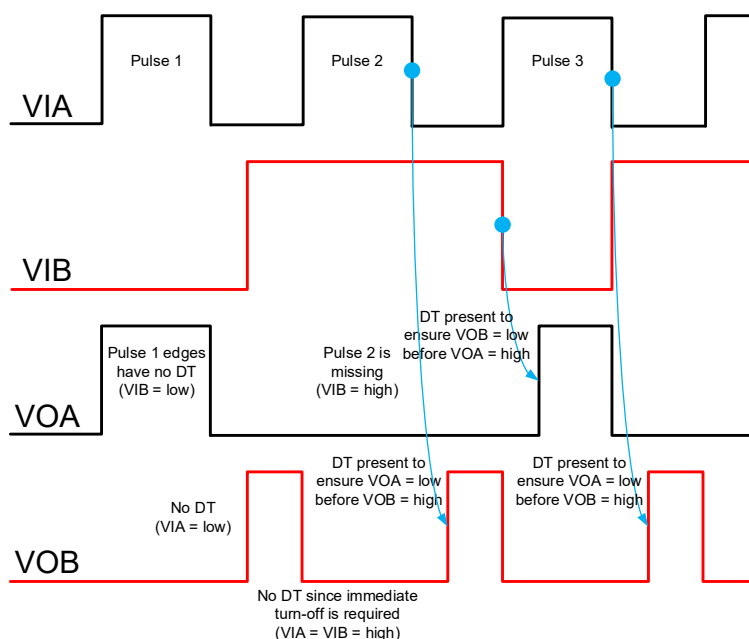

Figure 6. Dead Time Implementation and Behavior
These high-side/low-side drivers include programmable dead time, which adds a user-programmable delay between transitions of VOA and VOB. When asserted, dead time is present only on output rising edges, when the other input is also high. If only one input is high, there is no dead time added to the output transition. Please see Figure 6 below for a graphical representation of dead time implementation. The amount of dead time delay (DT) is programmed by a single resistor (RDT) connected from the DT input to ground per the equation below. The DT is measured as the time elapsed between VOA low to VOB high and vice versa.